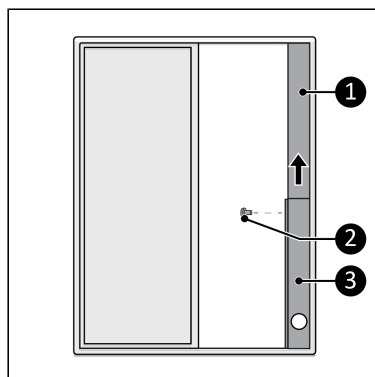

Figure 26.
3. Place the included window connector kit in the opening of the window (Figure 26, pos. 3).
4. Use the top part (Figure 26, pos. 1) to adjust to the height of the window. Attach the two parts in the right positions with the included dowels (Figure 26, pos. 2).